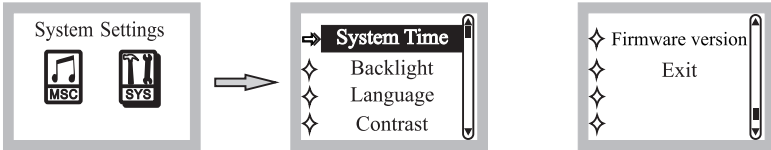

Fig. 17
- (2) System Settings Mode: Press PRV/TEN ◀◀ or the NEXT/TEN ▶▶ to change functions, press PLAY/PAUSE ⏸ to confirm and enter system settings, Fig. 17.